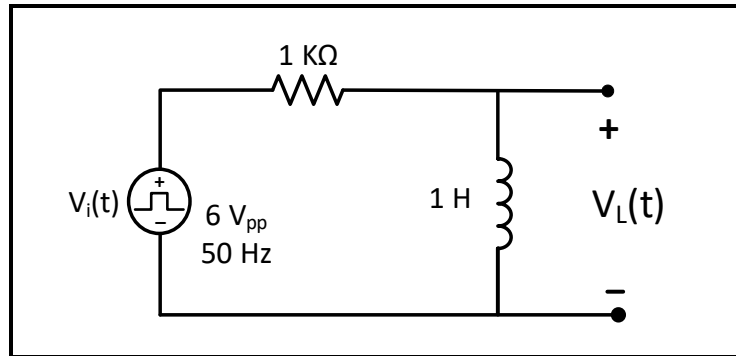

Figure 5.10
For the circuit of Figure 5.10:
1. Connect the circuit shown in Figure 5.10, with the function generator set to produce a square wave of: $V_{in} = 6\text{ V}_{pp}$, $f = 50\text{ Hz}$, and DC offset 3 V .